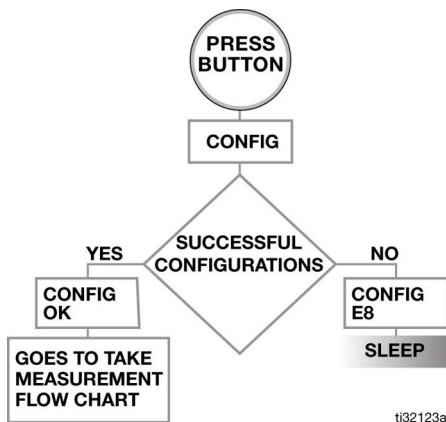

FIG. 4
4. Press the Display button (A) again to configure the TLM with a new profile.
5. CONFIG OK displays, as shown in FIG. 4, page 6, after the TLM is configured with the new profile.
If the TLM does not configure with a new profile by the Pulse software, the error message CONFIG E8 displays (Step 5, FIG. 4).